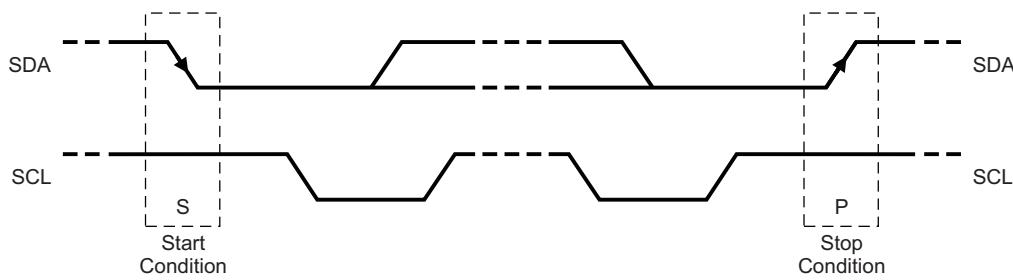

Figure 50. I²C Start and Stop Conditions
The basic I²C start and stop access cycles are shown in Figure 50.
- The *master* initiates data transfer by generating a *start condition*. The *start condition* is when a high-to-low transition occurs on the SDA line while SCL is high, as shown in Figure 50. All I²C-compatible devices should recognize a *start condition*.
- To signal the end of the data transfer, the master generates a *stop condition* by pulling the SDA line from low to high while the SCL line is high (see Figure 50). This releases the bus and stops the communication link with the addressed slave. All I²C compatible devices must recognize the *stop condition*. Upon the receipt of a *stop condition*, all devices know that the bus is released, and they wait for a *start condition* followed by a matching address.